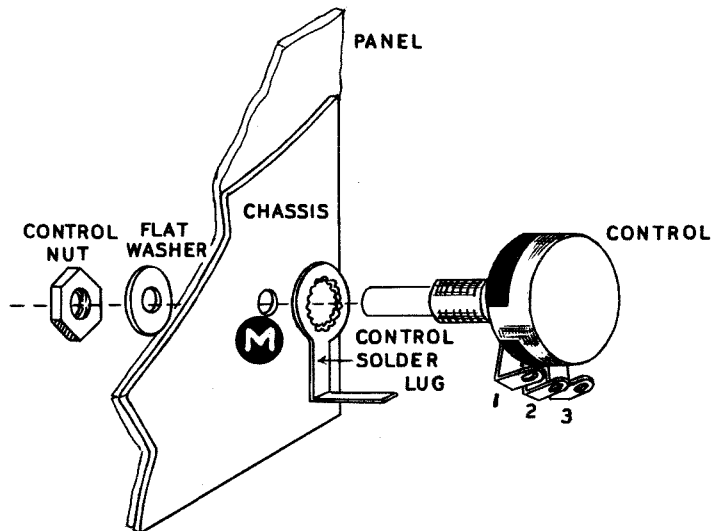

Figure 4
(N) Take the control solder lug, bend and form as shown in Detail 2 and cut off 3/8". Place the solder lug on the control and insert the control through hole (M) of the chassis and then through the front panel. Place a 3/8" flat washer and a 3/8" nut on the front. See Figures 4 and 5. Do not tighten. Line the control solder lug up with terminal #1 (S).